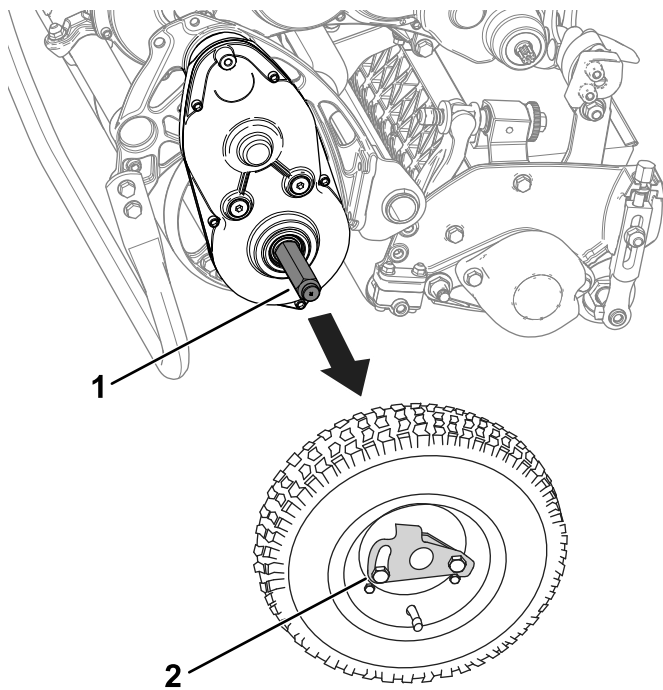

Figure 14
3. Remove the transport wheels by pushing the wheel-locking clips out of the axles (Figure 14).